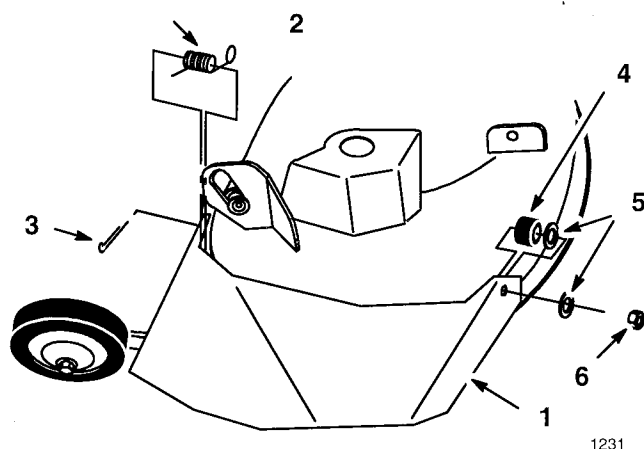

Figure 1
1. Locate items show (Fig. 1).
3. Position spring and discharge chute over post on rear of deck and secure with cotter pin (Fig. 1).
5. Place discharge chute over stud and secure with second plastic washer and nut (Fig. 1).